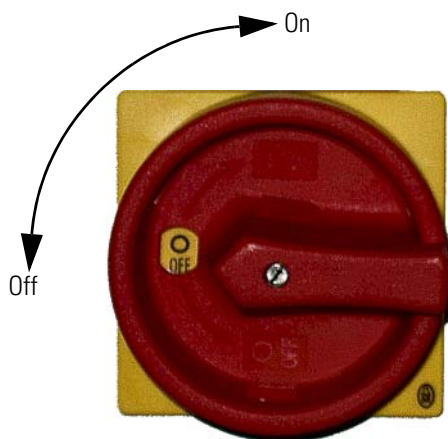

Figure 2-1. Main power switch in Off position
If you need to turn off the mass spectrometer in an emergency, place the main power switch (located on the power panel at the right side of the Orbitrap Velos Pro mass spectrometer) in the Off (0) position. This turns off all power to the instrument, including the linear ion trap, multiple socket outlets, and the vacuum pumps. The main power switch must be turned 90° anti-clockwise to switch off the instrument. See Figure 2-1.